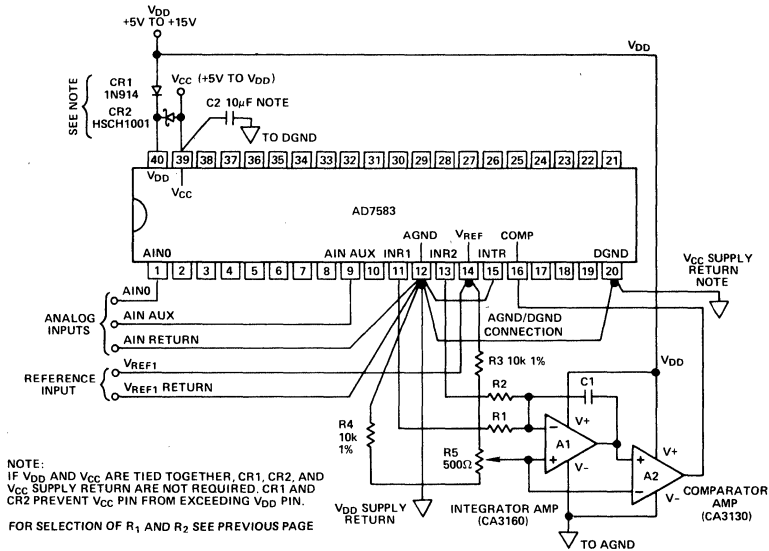

Figure 7. Analog Circuit Connections (Logic Input/Output Connections Omitted for Clarity)
Selecting an Integrator Amp (A1 in Figure 7)
Integrator amplifier A1 (Figure 7) must be chosen such that its total equivalent input error voltage e_{eq} over the temperature range of interest is
R_1 and R_2 are integrator resistors (Figure 7)
Integrator Time Constant (Figure 7)
INITIAL CALIBRATION (FIGURE 7)
1. The AGND/DGND connection should be made at the AD7583, as shown in Figure 7. In systems where the connection must be remote, connect back-to-back diodes (1N914 or equivalent) between pin 12 and 20 of the AD7583.
2. Failure to observe correct grounding techniques can introduce conversion error and/or noise. System analog common must be located directly at pin 12 of the AD7583, as shown in Figure 7.